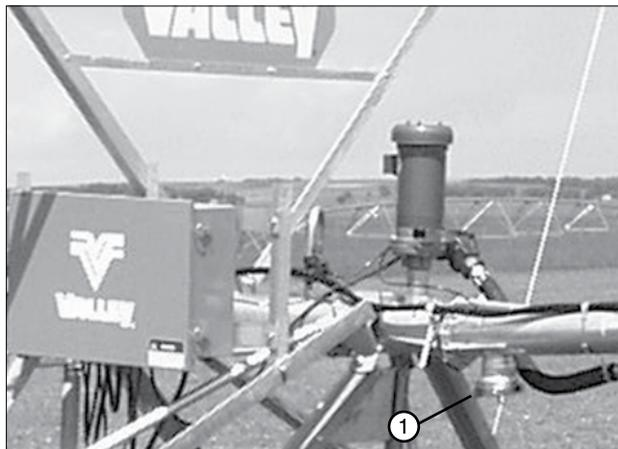

Figure 68-2 1. Sand Trap
3. Remove and clean the sand trap at the steerable drive unit. See Figure 68-2.